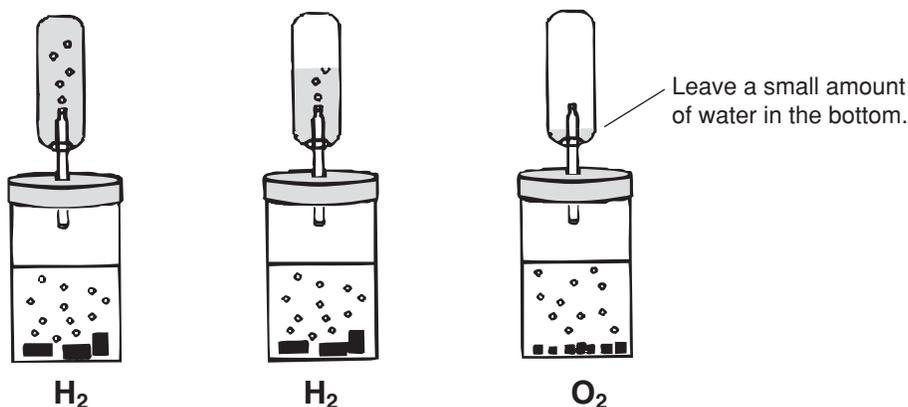

Figure 3. Collection of gases by water displacement.
7. Collect the hydrogen and oxygen gases by water displacement as shown below in Figure 3. If this is done over the plastic plate, the water from the pipet bulb will be contained.